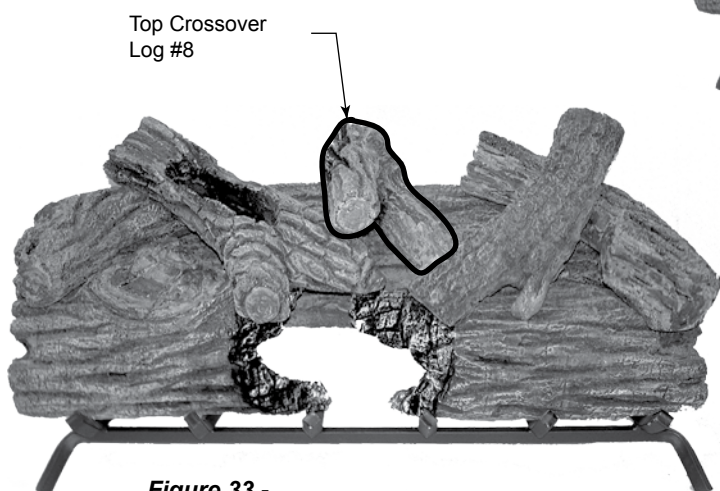

Figure 33 - Place Top Crossover Log
9. Place top crossover log #8 as shown. *Figure 33*